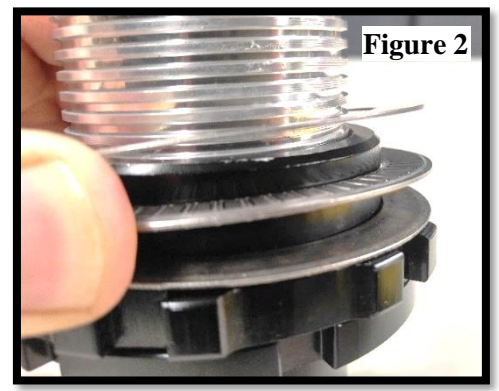

Figure 2
2. QA1 highly recommends using the QA1 thrust bearing kit (part #7888-109) for ease of adjustment. If the thrust bearing kit is used, coat both washers with **Permatex® Anti-Seize Lubricant**. Install the stainless steel spring seat washer, then the bearing, then the second washer, making a "thrust bearing sandwich". **(Figure 2)** If the thrust bearing kit is not used, coat one side of the stainless-steel spring seat washer that came with the shock with **Permatex® Anti-Seize Lubricant**.